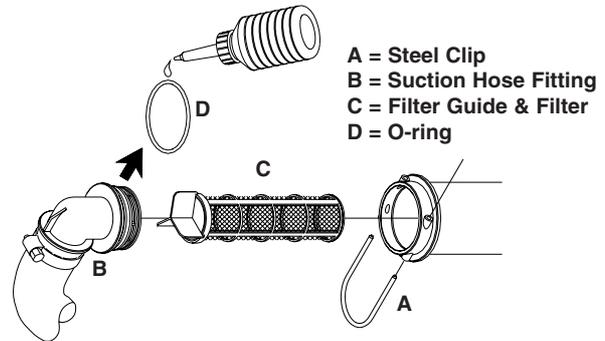

Fig 46
- 1 When Main Tank is empty, pull the steel clip (A Fig 46) out.
- 2 Lift suction hose fitting (B Fig 46) from the housing.
- 3 The filter guide and filter (C Fig 46) can now be removed.
- 3 Ensure the O-ring (D Fig 46) on the hose fitting is in good condition and lubricated.
- 4 Refit suction hose (B Fig 46) and steel clip (A Fig 46).